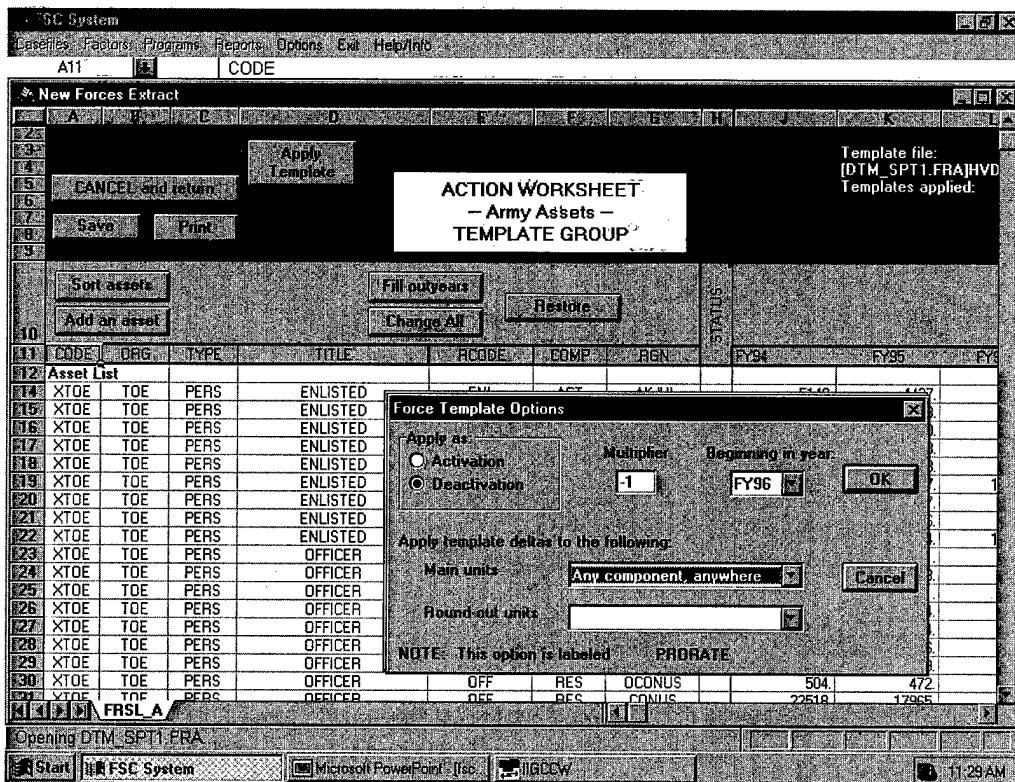

Figure A.4 — Applying the Template
**Step 4.** Indicate how you wish to apply the template. The dialog box in Figure A.4 asks whether and when the template’s forces should be added to the programmed force structure or removed from it. You are also asked for your preferences regarding the component(s) and region(s) to which the template deltas should apply. This example assumes you intend to cut NDC/CSS forces in FY96 by using the default preferences that prorate the cuts across components and regions.